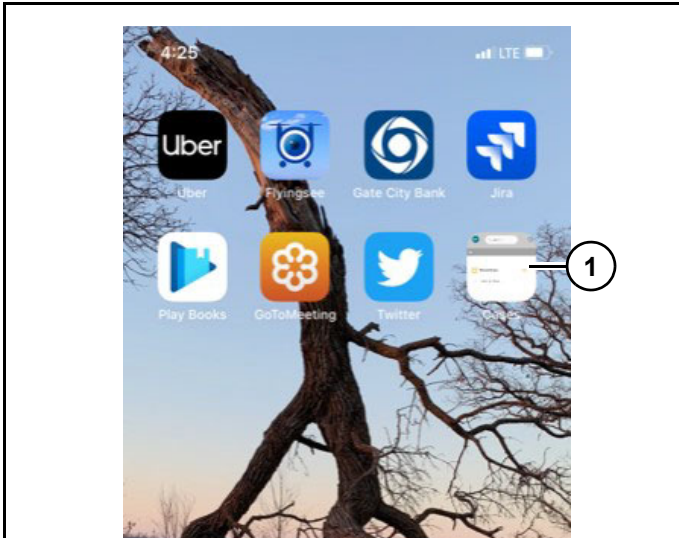

Figure 18
1. Click "Case shortcut" (1) (Figure 18).